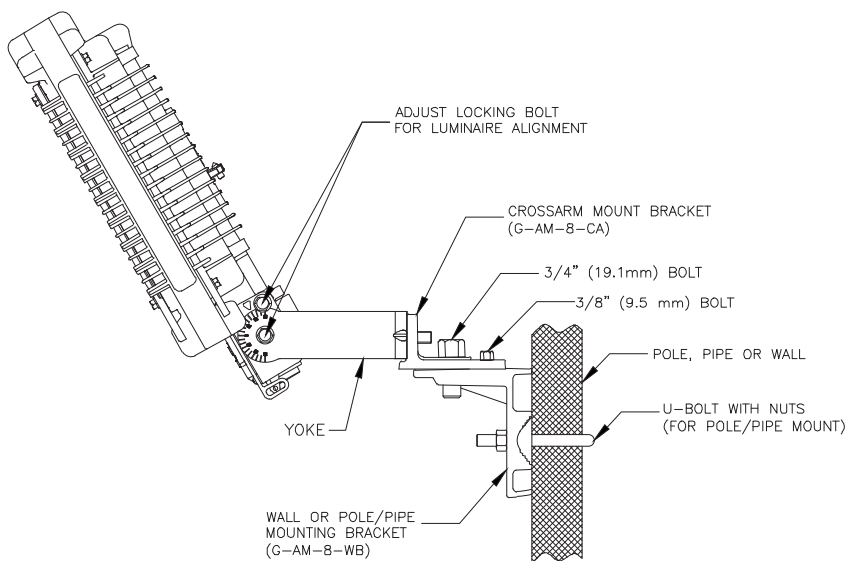

Figure 7: Luminaire avec support de montage à bras croisés (P/N: G-AM-8-CA) et support de montage sur tube/mural (P/N: G-AM-8-WB)
5. Mount the luminaire with yoke and crossarm mounting bracket (attached) to the pipe/wall mount bracket with one 3/4 inch (19 mm) bolt (supplied). See Figure 7.
6. Install one 3/8 inch (9.5 mm) bolt (supplied) through the crossarm mounting bracket and into the pipe/wall mount bracket. See Figure 7.